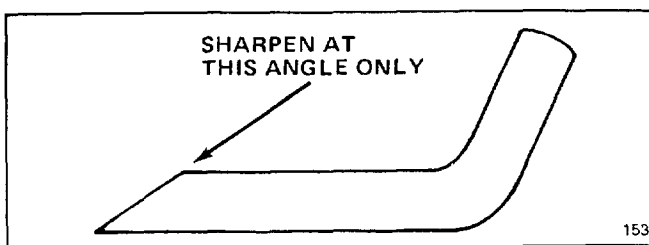

Figure 15
6. **SHARPENING BLADE** – Using a file, sharpen top side of blade (side facing mower housing) and maintain original cutting angle (Fig. 15). The blade will remain balanced if the same amount of material is removed from both cutting edges.